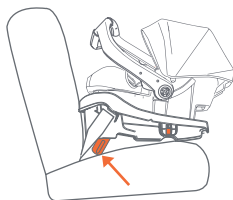

Fig. 55-4
- If the Seat Angle Indicator bubble level (4-22 lb.) is not centered or level line (23-30 lb.) is not parallel with the ground, extend the elevation foot, under the front of the base at the foot end to achieve the correct position (Fig. 55-4). If the correct elevation can not be achieved **see section 7.5 Elevation Aids**. Re-tighten the vehicle seat belt as instructed in section, securing the Safety Seat or Base in the Vehicle.